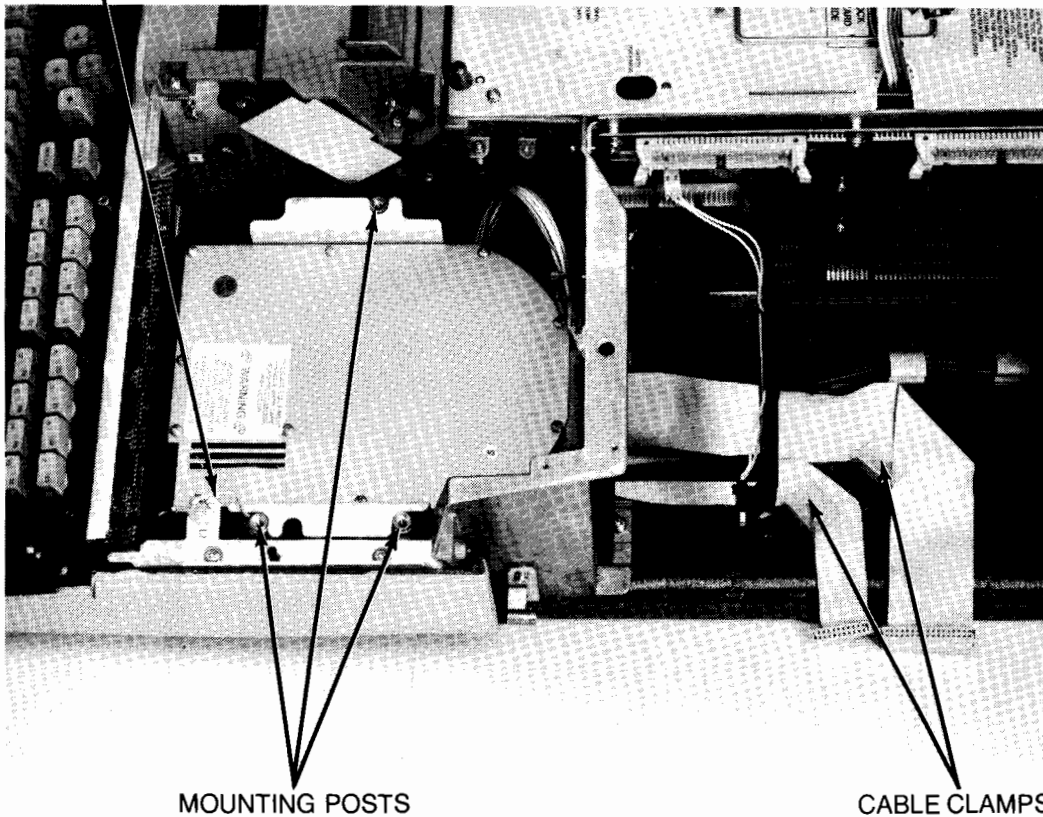

Figure 5
14. Set the drive in the mainframe base so that it is supported by the three mounting posts as shown in Figure 5.
15. Connect the ground cable to the lug (Figure 5).
16. Install both cable clamps as shown in Figure 5. Place the clamp over the fold in the cable, peel the backing off the clamp, and stick the clamp to the base.